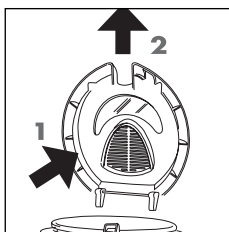

fig. 10
- The lid is removable, to take it off, proceed as follows: push the lid back (see arrow "1" fig. 10 ) and at the same time, lift it up (see arrow "2" fig. 10)